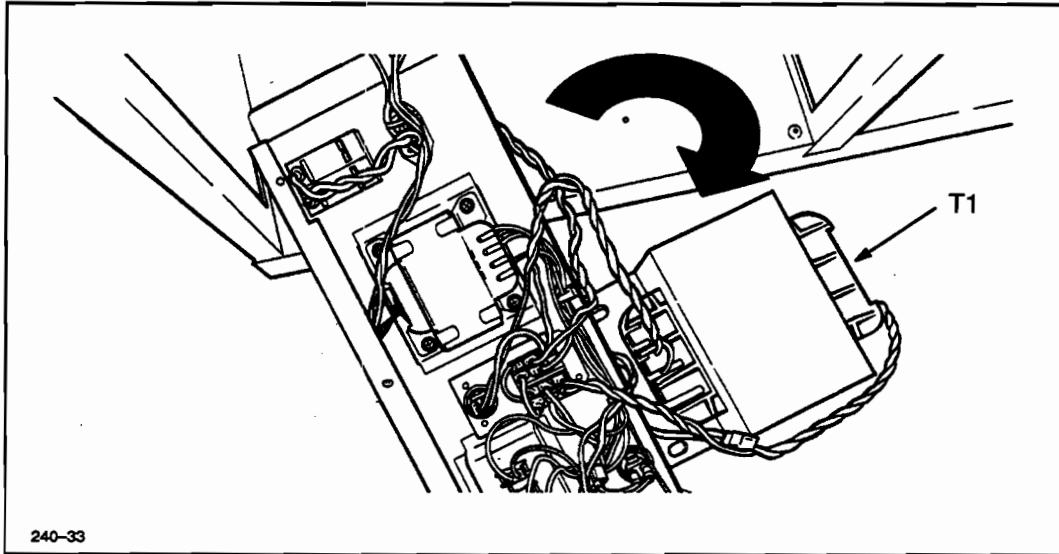

Figure 6-28. Main Transformer (T1) Removal
9. Slide the transformer out from the rear of the plotter and place it next to the power panel. See Figure 6-28.